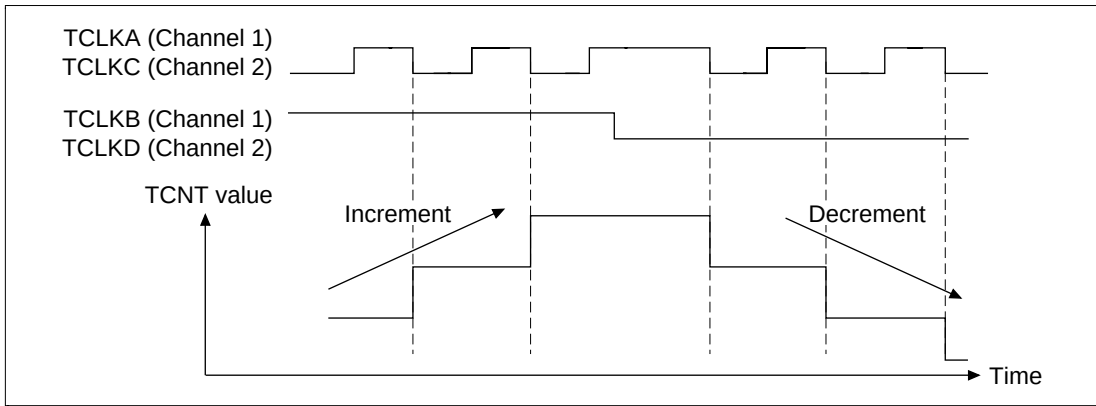

**Figure 12.31 Phase Counting Mode 2 Operation**
**Phase Count Mode 2:** Figure 12.31 shows an example of phase counting mode 2 operation. Table 12.10 lists the up counting and down counting conditions for the TCNT.